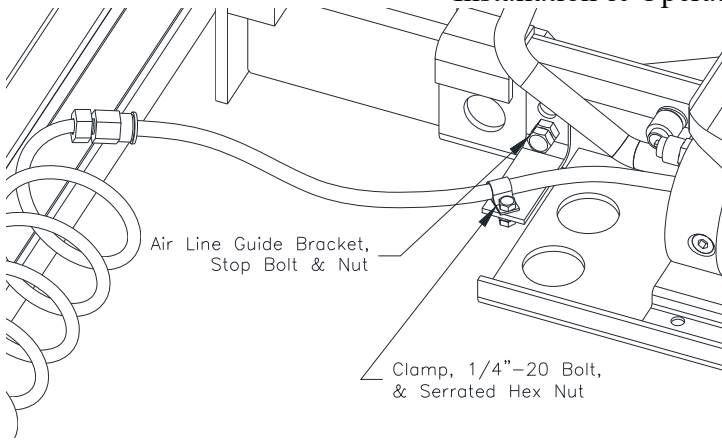

Figure 14
18. Remove Side Member Stop Bolt and Hex Nut. Install Air Line Guide Bracket and replace hardware as shown in **Fig 14**. Using Clamp, 1/4"-20 Hex bolt, and Hex nut, secure tubing to guide bracket. Rotate Clamp as necessary. **Note: Ensure there is clearance between air line and jack rollers during operation.**